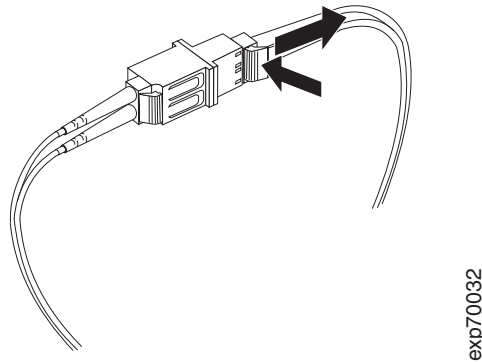

Figure 33. Removing the LC-LC fibre channel cable from an LC-SC fibre channel cable adapter
2. Carefully pull on the connector to remove it. Make sure you grasp the connector and not the cable when removing the LC-LC cable from the LC-SC cable adapter as shown in Figure 33.